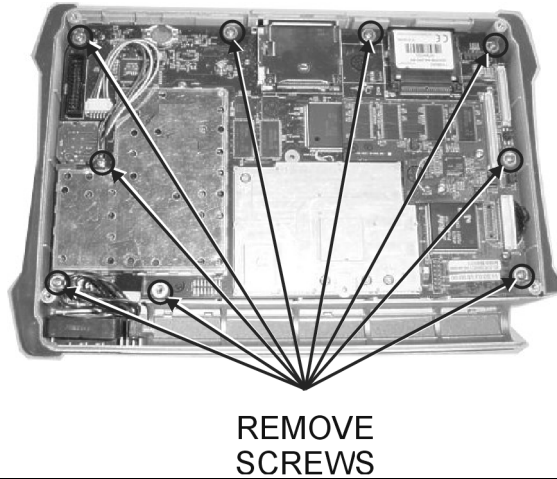

Figure 15. Main PCB Assembly Mounting Screws
4. Use a Phillips screwdriver to remove the nine screws securing the main PCB assembly to the Front Panel section (Figure 15).